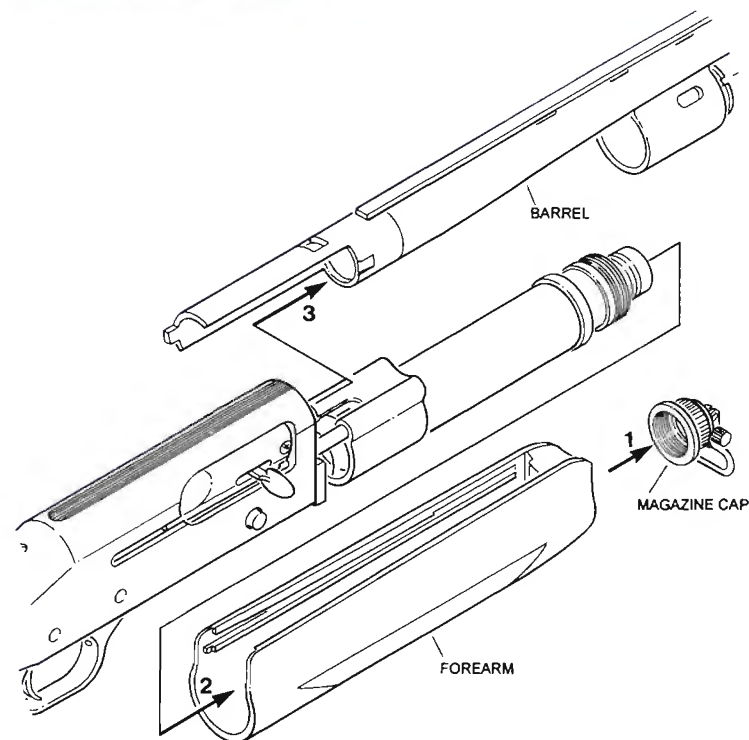

Figure 9
Unscrew and remove the magazine cap (Figure 9). Grasp the barrel and forearm to prevent them from sliding forward. Do not place your hand over the muzzle at any time. Point the muzzle downward and shake the shotgun in an up and down motion until the wooden dowel falls through the opening at the end of the magazine tube.
Unscrew and remove the magazine cap (Figure 9), insert either end of the wooden dowel at the end of the magazine tube, inside the coils of the magazine spring. Replace magazine cap finger tight only. Do not use pliers or a wrench to tighten the magazine cap.
1. Unscrew the magazine cap (Figure 9).